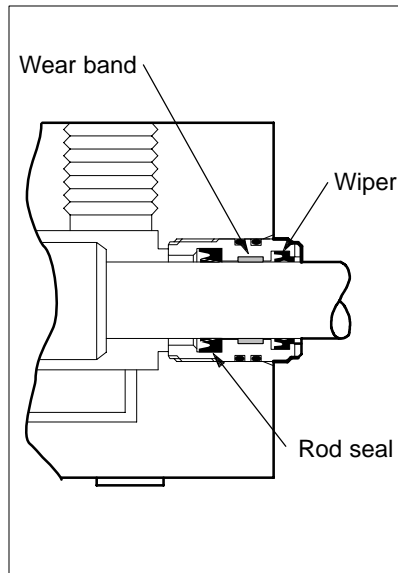

Figure 2.
6. Lightly lubricate the new rod seal, o-rings, wear band and wiper. Install them in the cartridge as shown in Figure 2. Carefully lead the outside sealing edge into each groove. Be careful not to damage the seal or wiper.